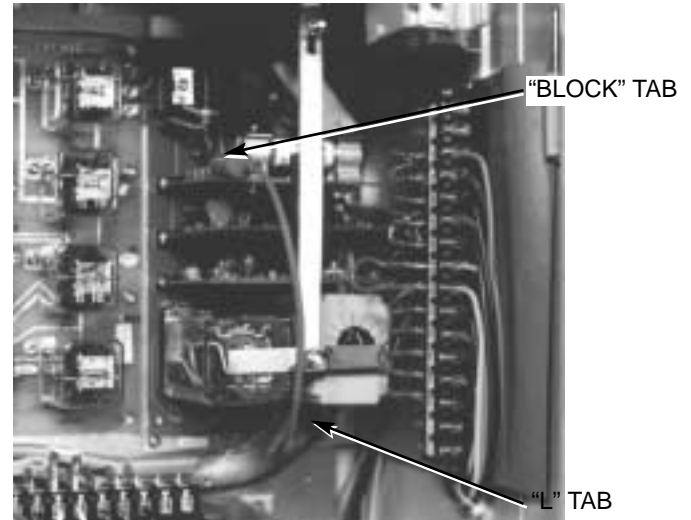

Figure 26.
1. Disable the phase sensing circuit by placing a shorting jumper from the BLOCK tab on the phase resistor card to tab L on the accessory tie-board (Figure 26).
1. Disable the ground sensing circuit by shorting the ground fault resistor (Figure 26).